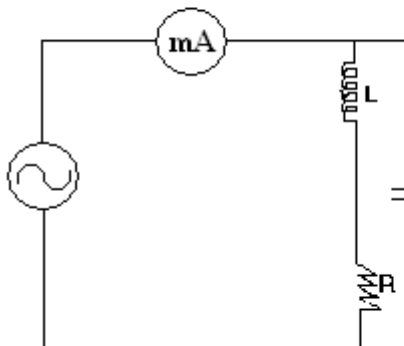

Fig 3: Parallel Resonance
- The circuit connections are made as shown in Fig3.